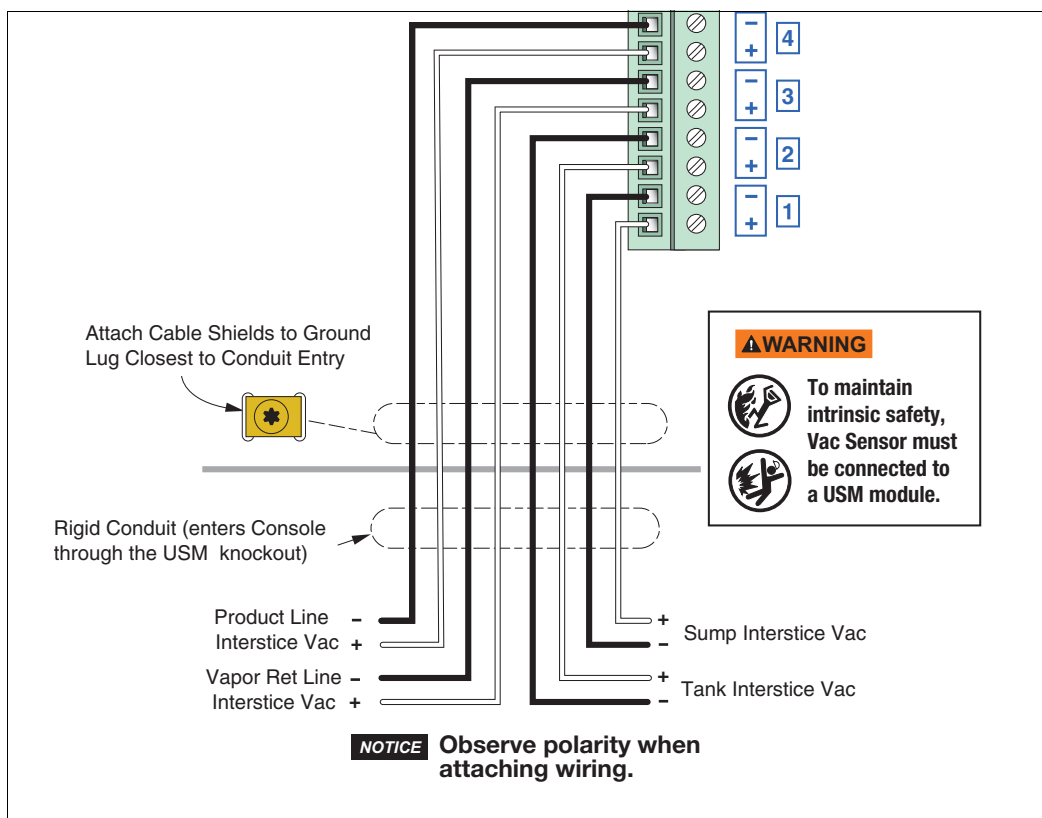

Figure 5-1.- Vac Sensor Inputs
1. Connect each Vac Sensor/Vac Float pair and the Vac Sensor/ Tank Interstitial Float pair cables to the Universal Sensor Module (USM) as shown in Figure 5-1.